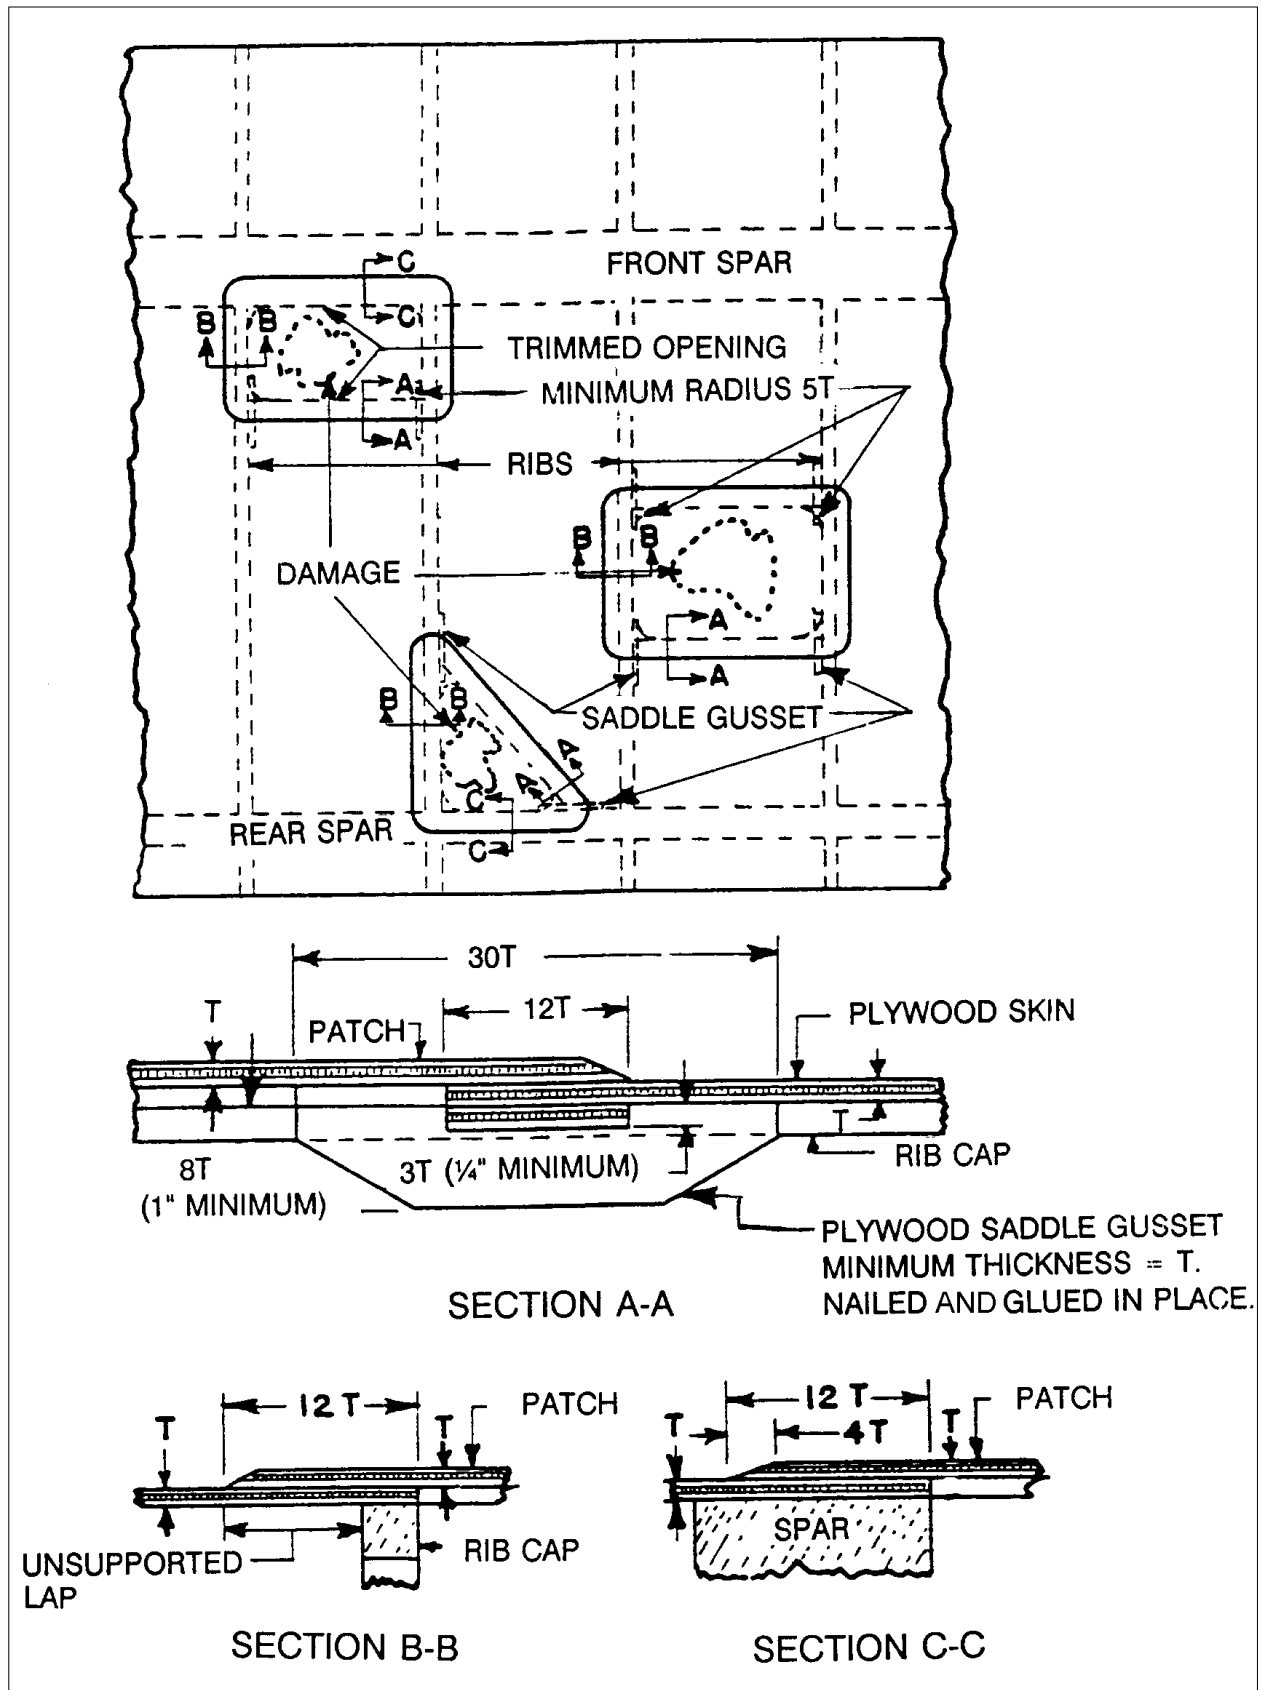

FIGURE 1-14. Surface patches.
(2) Taper the hole evenly to the outer mark with a chisel, knife, or rasp.
(3) Prepare a circular tapered patch to fit the prepared hole, and bond the patch into place with face-grain direction matching that of the original surface.
(4) Use waxed paper or plastic wrap, (cut larger than the size of the patch) between the patch and the plywood pressure plate. This prevents excess adhesive from bonding the pressure plate to the skin. Center the pressure plate carefully over the patch.
(5) As there is no reinforcement behind this patch, care must be used so that pressure is not great enough to crack the skin. On horizontal surfaces, weights or sandbags will be sufficient. On patches too far from any edge for the use of standard hand clamps, jaws of greater length may be improvised. Table 1-2, columns (1) and (3), may also be used for determining the maximum thickness of single laminations for curved members.
(6) Fill, sand, and refinish the patch.
b. Surface Patch. Plywood skins that are damaged between or along framing members may be repaired by surface or overlay patches as shown in figure 1-14. Surface patches located entirely aft of the 10 percent chord line, or which wrap around the leading edge and terminate aft of the 10 percent chord line, are permissible. Surface patches may have as much as a 50 inch perimeter and may cover as much as 1 frame (or rib) space. Trim the damaged skin to a rectangular or triangular shape and round the corners. The radius of rounded corners must be at least 5 times the skin thickness. Bevel the forward edges of patches located entirely aft of the 10 percent chord line to 4 times the skin thickness. The face-grain direction must be the same as the original skin. Cover completed surface patches with fabric to match surrounding area. The fabric must overlap the original fabric at least 2 inches.